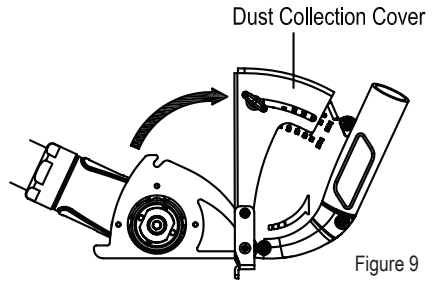

Figure 9
2. Slide the Dust Collection Cover open (Figure 9)